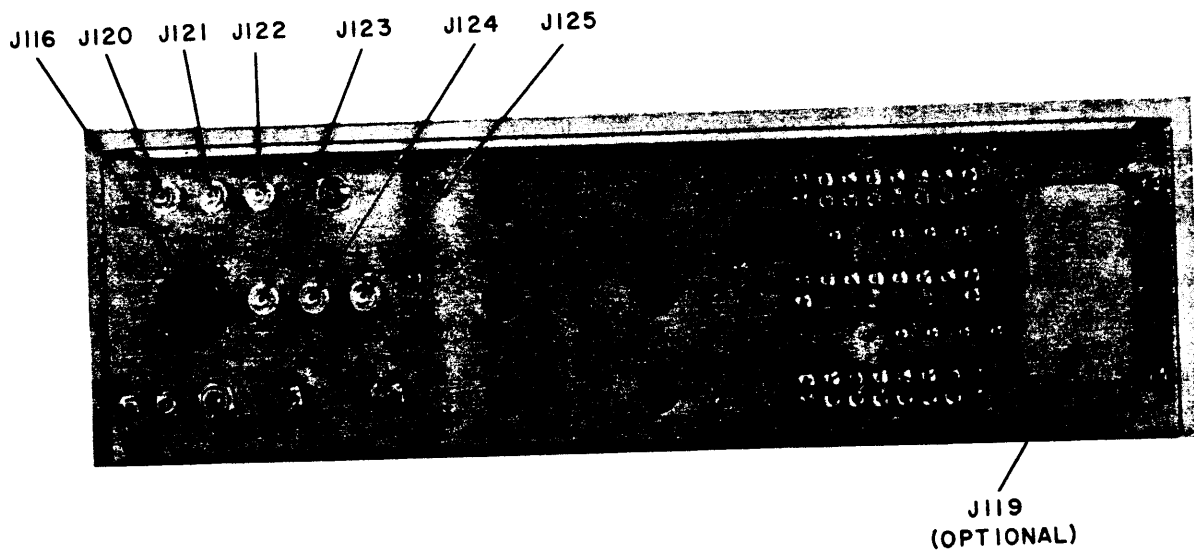
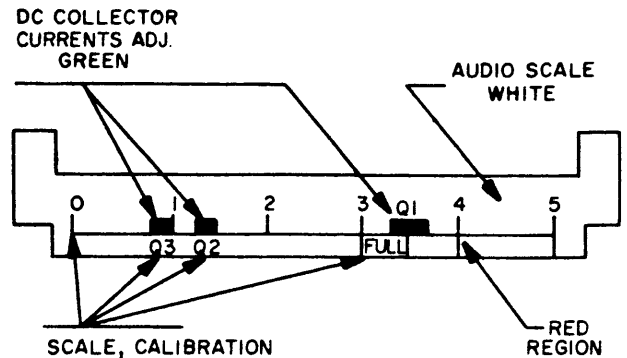

Figure 2-2. Rear Panel Connections
Figure 2-3. Front Panel Monitor Indicators
All electrical connections between the Exciter and associated equipment are made at the rear of the unit. Figure 2-2 illustrates all rear panel connections, while table 2-1 lists the panel designation and function of each connection.
2-5. INITIAL CHECKOUT PROCEDURE (See figures 2-2 and 2-3.)
- a. Set ON/STANDBY switch (9) to STANDBY position.
- b. Connect source of 115 vac line power to connector J116 (figure 2-2). STANDBY indicator (8) shall illuminate amber.
- c. Using an audio Two Tone Generator (TMC Model TTG, or equivalent) connect a 600-ohm, 1 millivolt single tone signal to TB103 terminals 1, 2 and 3 (figure 2-2).
- d. Set RF OUTPUT control (1) fully counterclockwise.
- e. Using frequency selector switches (14), set output frequency to 1.99999 MHz.
- f. Set CARRIER control (13) fully counterclockwise.
- g. Set LSB MIKE-LINE (4) and USB MIKE-LINE (6) controls to zero (0).
- h. Position MODE switch (12) to ISB.
- i. Set ON/STANDBY switch (9) to ON. Standby indicator (8) shall extinguish and POWER indicator (10) shall illuminate red.
- j. Set EXCITER switch (11) to ON.
- k. Set METER switch (2) to Q1 position. MONITOR meter (5) shall indicate in the green region marked Q1. (See figure 2-3.)
- l. Set METER switch (2) to Q2 position. MONITOR meter (5) shall indicate in the green region marked Q2. (See figure 2-3.)
- m. Set METER switch (2) to RF position. MONITOR meter (5) shall indicate zero with RF OUTPUT control (1) fully counterclockwise.
- n. Connect a VTVM (Hewlett-Packard Model 410B, or equivalent) to RF OUT jack J124 (figure 2-2) across a 50-ohm load resistor. Adjust RF OUTPUT control (1) until VTVM indicates 7.0 volts.
- o. When using a 600-ohm line input, set EXCITER switch (11) to ON.
- p. Set METER switch (2) and MODE switch (12) to USB position. Adjust USB MIKE-LINE control (4) to appropriate level as indicated on MONITOR meter (5) (approximately 4/5 full scale).
- q. Set METER switch (2) to CARR position and adjust carrier to desired level using CARRIER control (13).
a. Connect a source of 115 vac, single-phase power to connector J116 (figure 2-2). Observe that STANDBY indicator (8) illuminates amber.
b. Make necessary interface connections on rear panel jacks (figure 2-2).